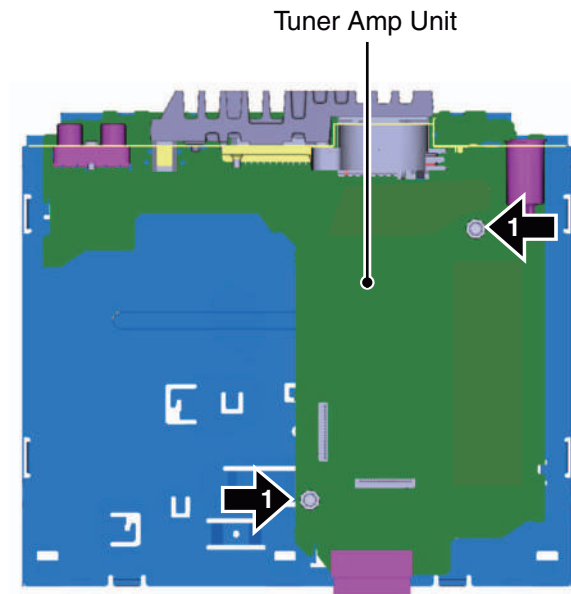

Fig.3
A ● Removing the Tuner Amp Unit (Fig.3)
4. As shown in Fig 3, move the rear end of the feeding screw laterally and then upward, to remove it from the outer holder.